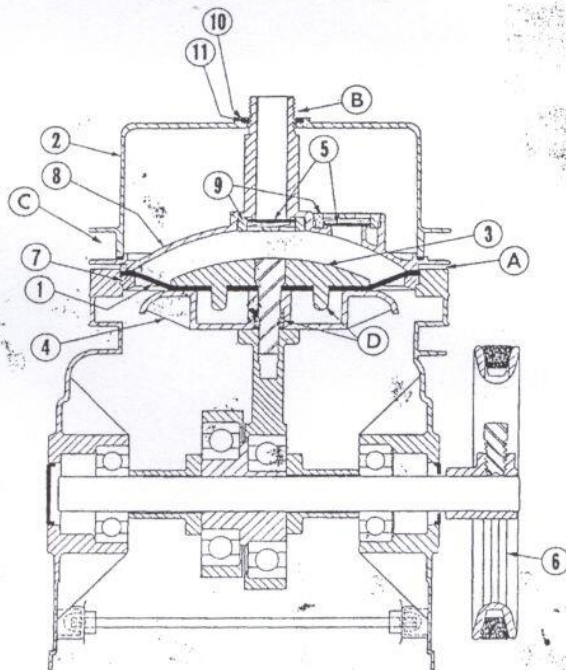

Figure 39—Air Pump Diagram
(a) **Diaphragms.** Inspect diaphragm (1, Figure 39) for possible rupture by removing hose and manifold which connects the two air domes (2). *Do not damage gasket between manifold and air domes.* Remove 6 screws holding air head in place and remove entire head at point "A."
To complete diaphragm installation turn pump by hand until pull plate (3, Figure 39) is at top center. Locate diaphragm in proper position and reassemble head. Be sure head is properly centered then tighten screws slightly and uniformly. Turn pump pulley (6) several revolutions by hand to assure proper seating of diaphragm on top of diaphragm ring (7) and then tighten screws securely. Reassemble manifold and hose.